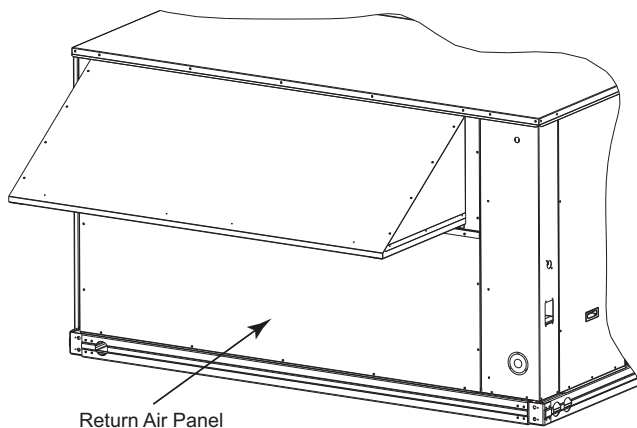

Fig. 5 — Unit Return Air Panel Removal for Vertical Return Air Applications
1. Remove existing return air panel on unit, located below the economizer hood as shown in Fig. 5. Discard the panel and screws.